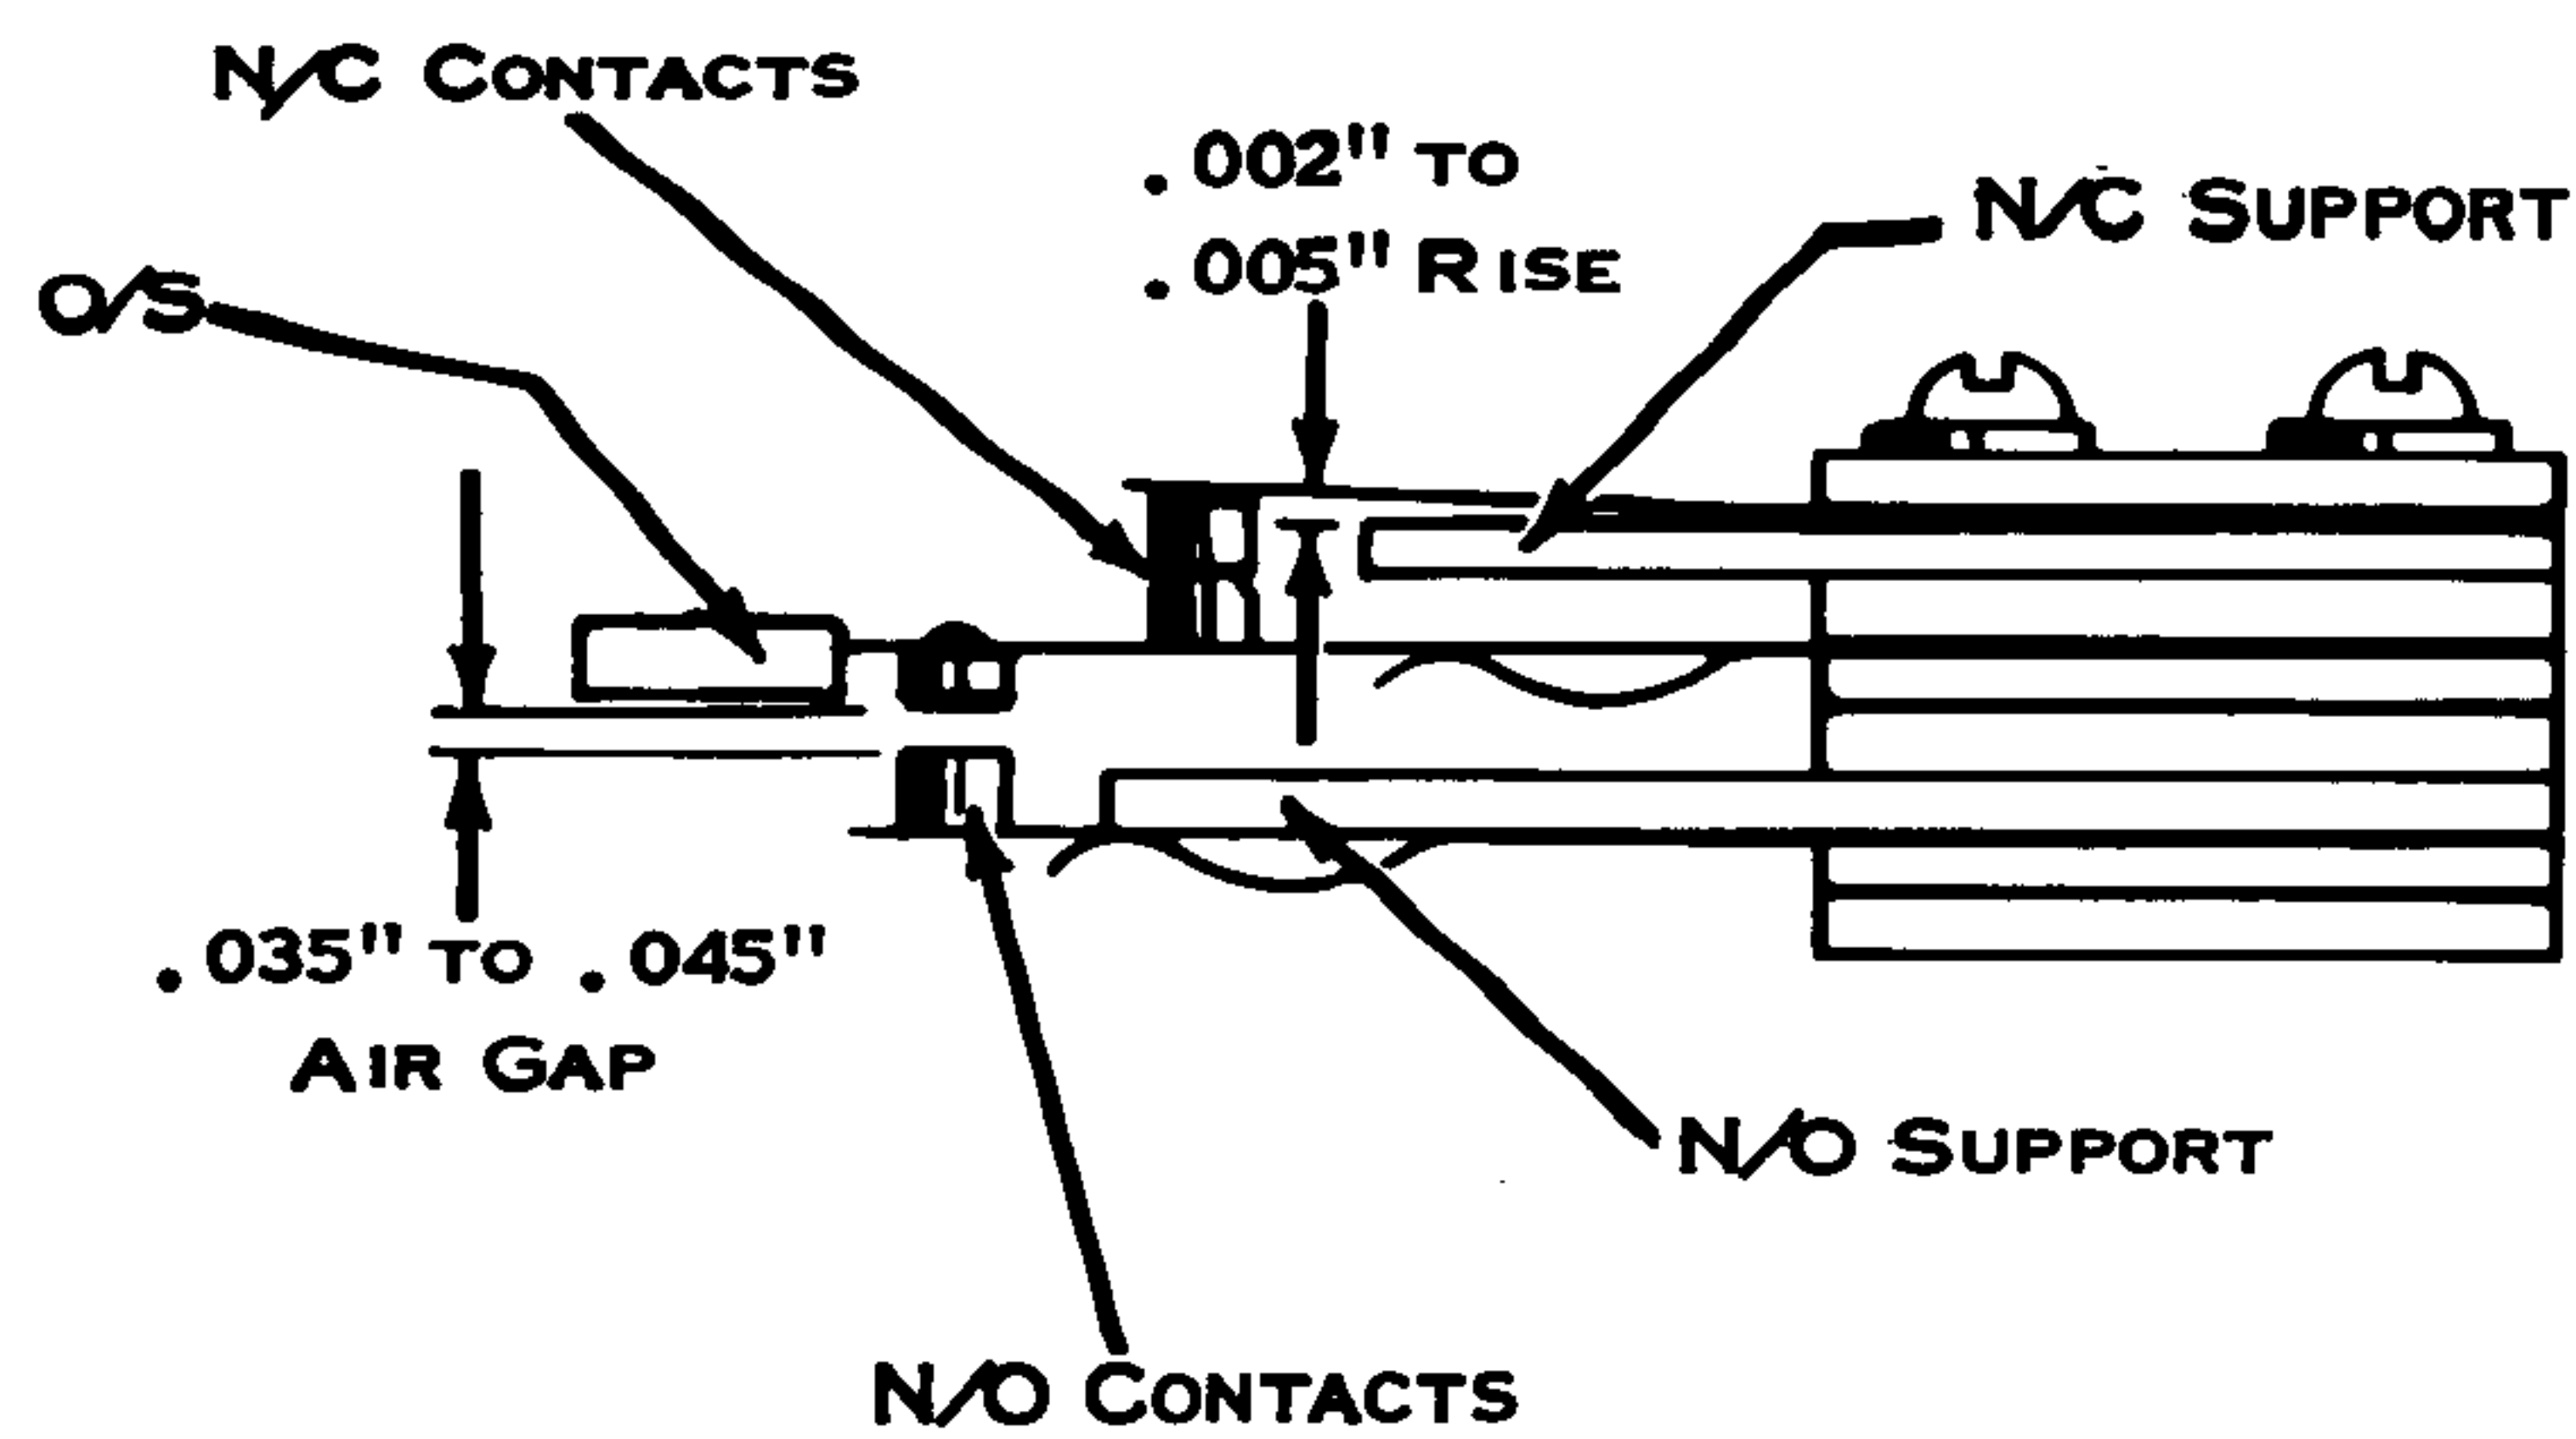

Figure 144. Feedback Contact
- Form the N/C supports so that the O/S's lift the N/C contacts .002 to .005" (Fig. 144).
- Form the N/O supports for .035" to .045" air gaps between the O/S's and N/O contacts (Fig. 144).
- Form or adjust the contact mounting bracket (up or down) for make and break times (Fig. 144). Refer to the timing charts for contact timing and duration.